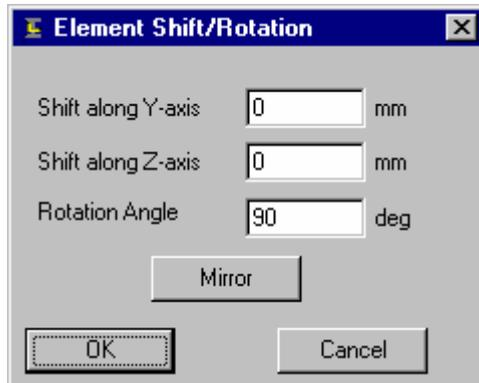

Fig. 68 Shift/Rotate Element dialog box
- in the **Rotate** field of the **Shift/Rotate Element** dialog box (Fig. 68), enter an angle of 270° in the **Rotate** field